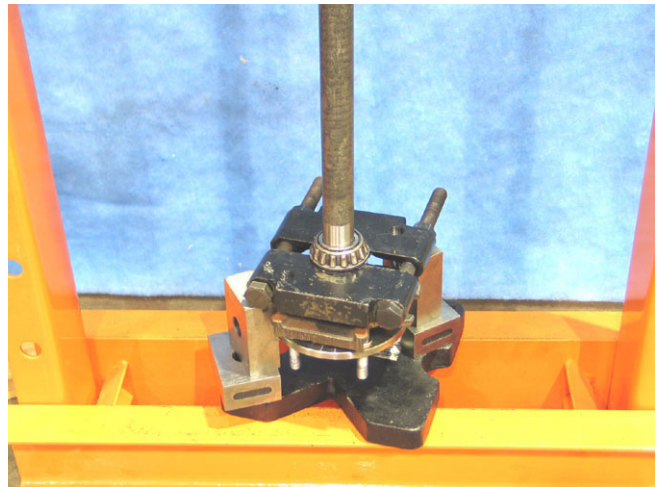

Figure 14.12
14.12. The bearing must be pressed off of the shoulder on the axle. The plastic dust cover may separate from its metal mounting plate in the process. See Figure 14.12.